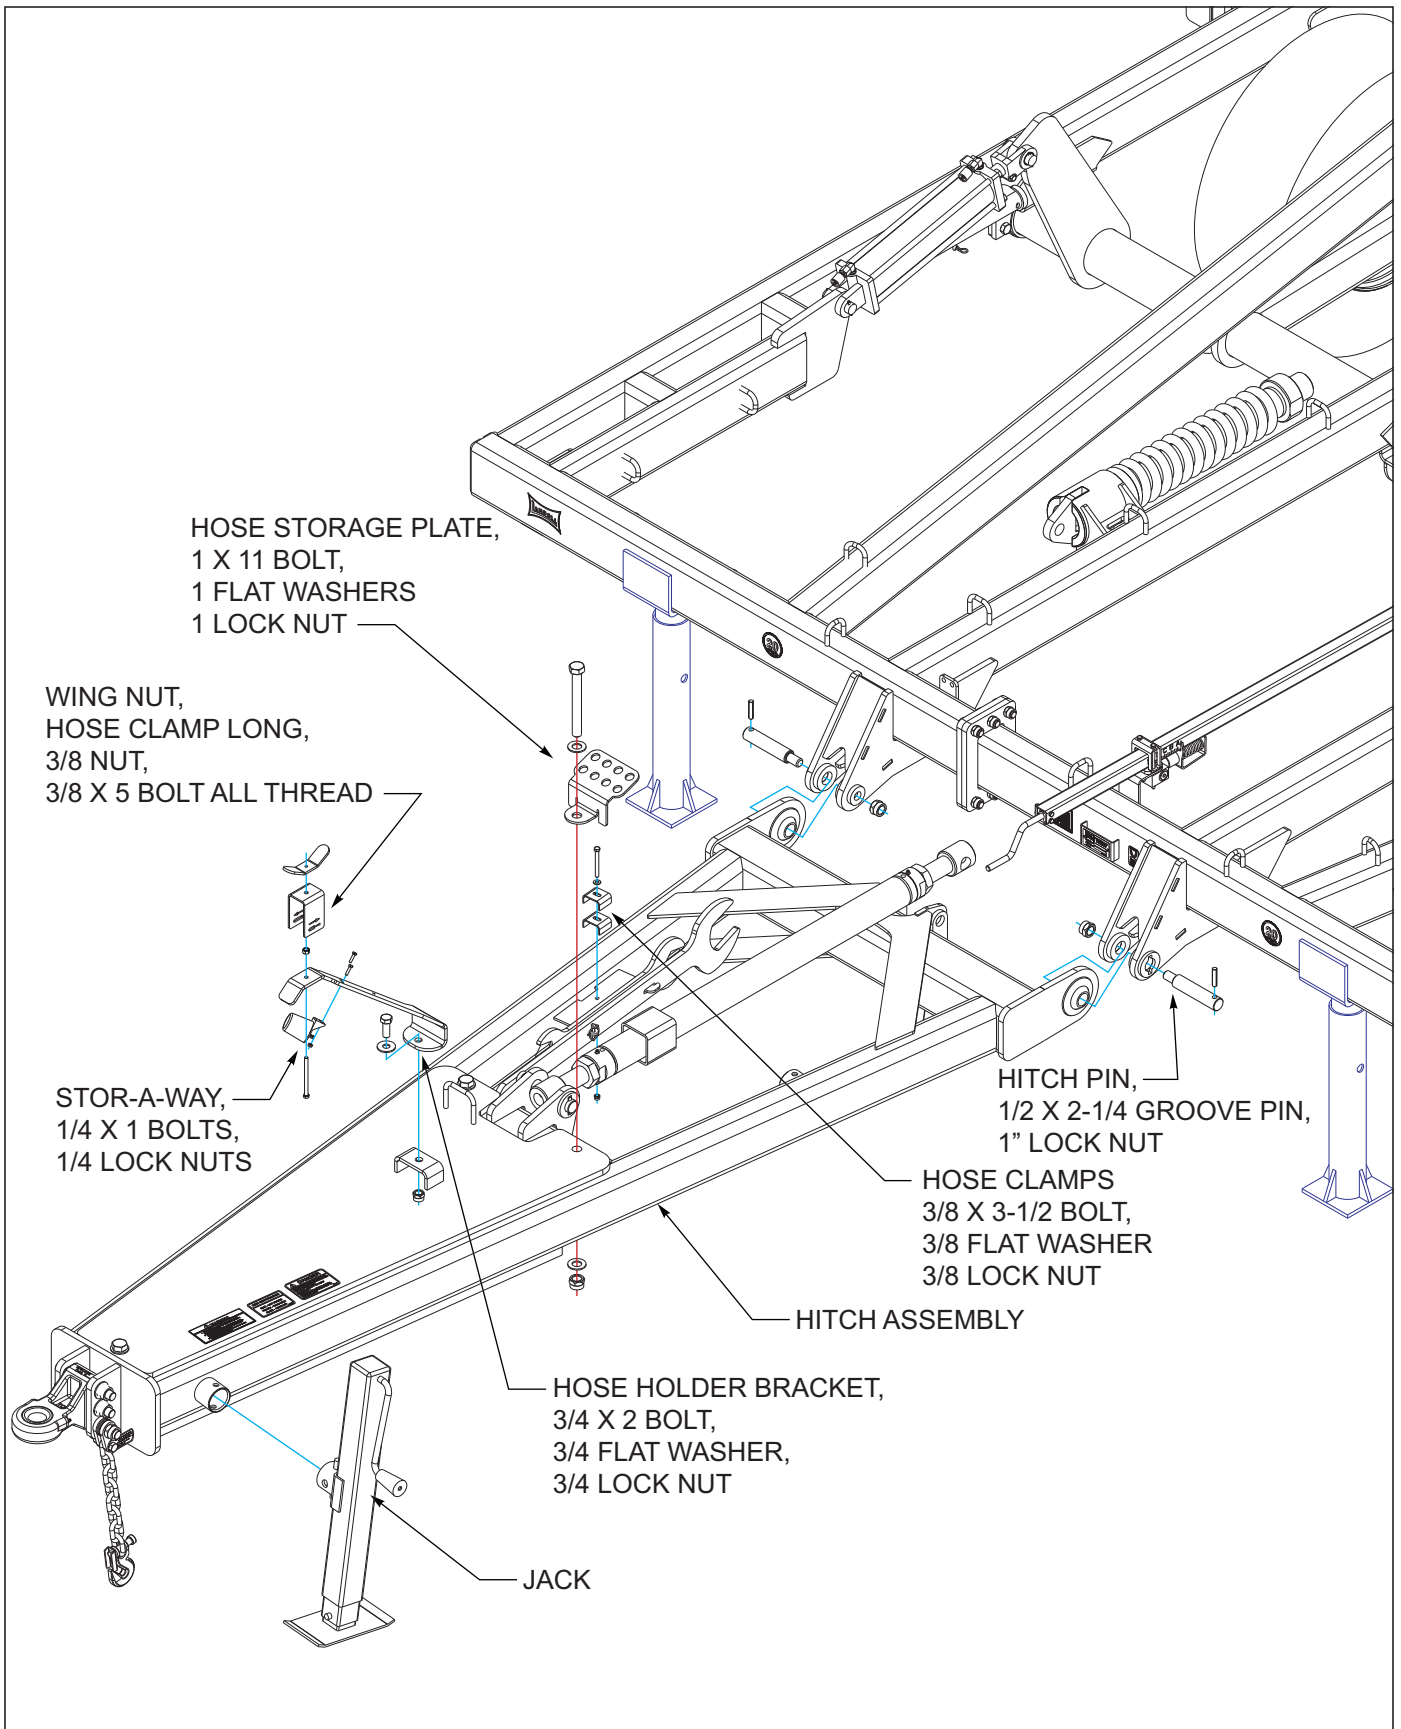

Figure 3-7: Hitch Assembly
1. Attach the hitch assembly to the front of the center frame using hitch pins, 1" lock nuts, and 1/2 x 2-1/4 groove pins See Figures 3-7.
4. Remove the 1 x 11 bolt from hitch assembly and install the hose storage plate in position shown See Figures 3-7, re-install the 1 x 11 bolt, 1 flat washer and 1 lock nut.
9. Install the stor-away holder to hose holder on hitch with 1/4-20 x 3/4 hex head cap screws and hex lock nuts See Figures 3-7.